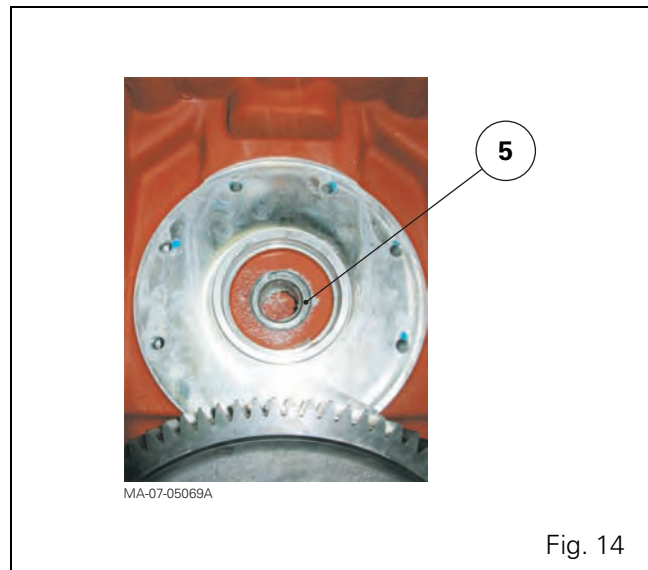

Fig. 14
19. If necessary, extract the hydraulic ring (5) (Fig. 14) using a suitable slide hammer puller.